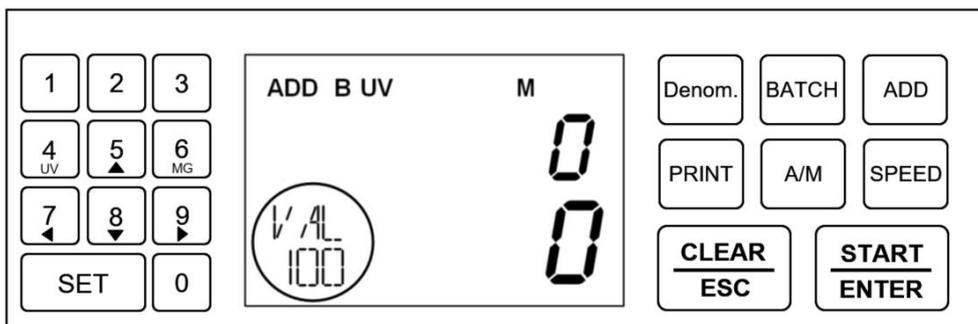

Figure 29
3) After selecting the corresponding denomination and stopping for 1 second, the machine enters the screen shown in Figure 29 below: the character "VAL 100" appears in the lower left corner of the display, indicating that it is in the mode of counting USD 100. In this screen, you can count USD 100 banknotes.